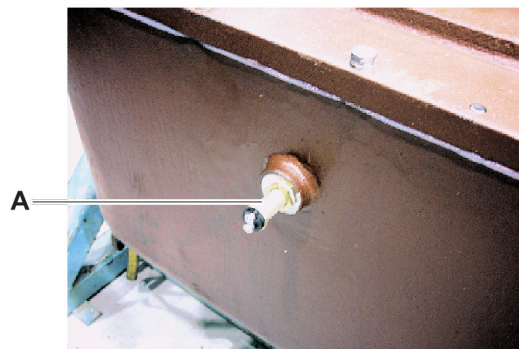

Figure 19
26. Insert the rotation tachometer sensor (Figure 19, item A) into the side of the casing. Thread the sensor into the housing until it contacts the intermediate gear teeth. Unthread the sensor two turns and lock it into position using a jam nut.